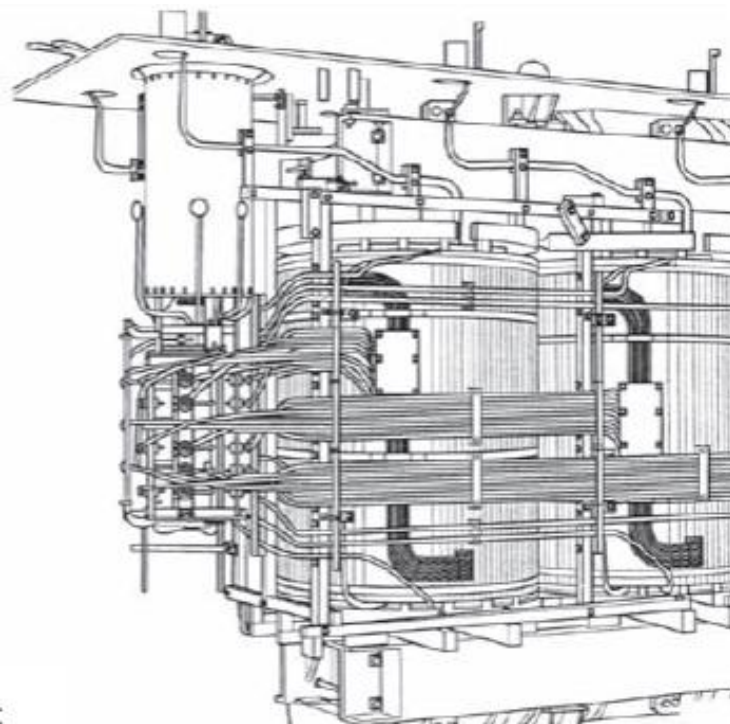

Figure 10
4.1 Installation of on-load tap-changer in box top transformer (Figure 10)
- (1) 3 phase current $\leq 600\text{A}$ & single phase OLTC: Put the tap selector on the surface of the horizontal table. Remove the bolts (6 M12 hex socket bolts, 8th wrench) and nuts on the tap selector support. And save it. Also check and tighten the mounting screws (M6 socket head cap screws)(Fig. 10) of the tap selector connection wires (Fig. 13a).